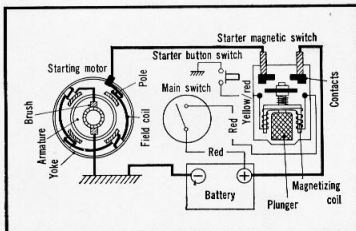

Figure 5-5. Starter wiring
- (1) The plunger coil is defective due to a broken wire, therefore, replace the coil.
- However, if an energizing click is heard in the starter relay, the defect is a poor contact in the starter switch button or the contact plate within the magnetic switch, therefore, disassemble the part and clean the contact areas. (Fig. 5-5)